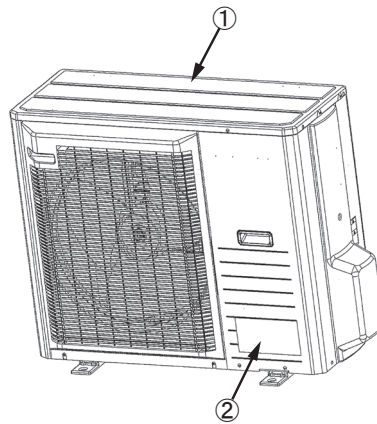

Fig.1 Outdoor unit
- 2) Remove a top panel.(Fig.1 ①)
- 3) Detach a service panel.(Fig.1 ②)